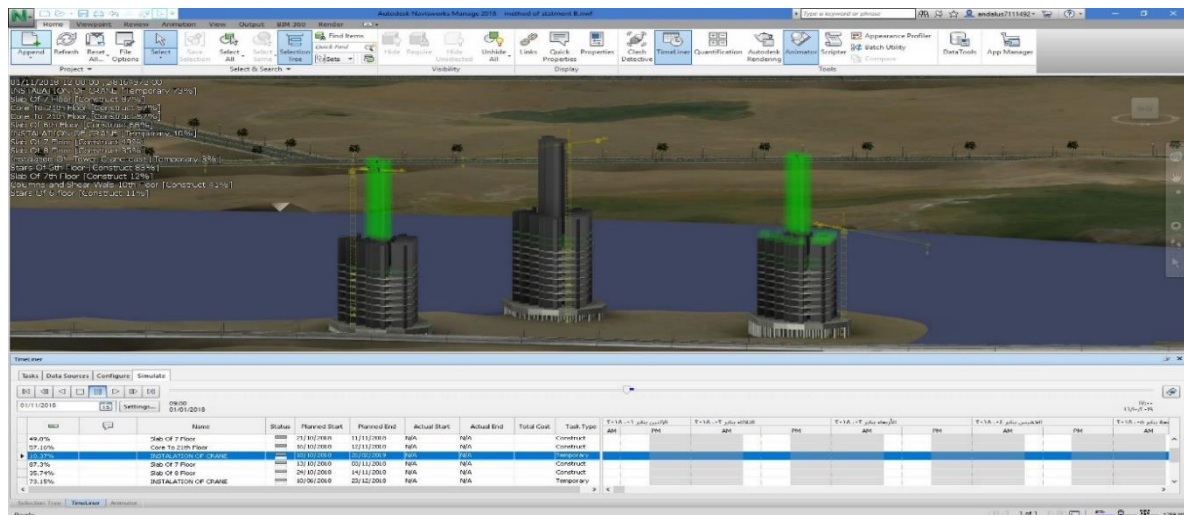

Figure 6: Navisworks (M.O.S 1 – The towers /ALAMEIN).
- ☐ Construction Of Slab(7) 65%- East tower
- ☐ Construction Of Slab(6) 35%- West tower
- ☐ As shown in figure 6